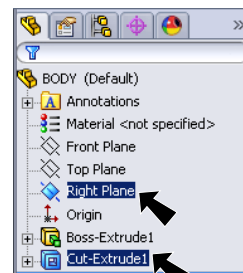

Fig. 27
Step 1. **Ctrl click** **Right Plane**  and **Cut-Extrude1** (wheel wells) in Feature Manager to select both, **Fig. 27**. To Ctrl click, click Right Plane in Feature Manager. Hold down Ctrl key and click Cut-Extrude1.